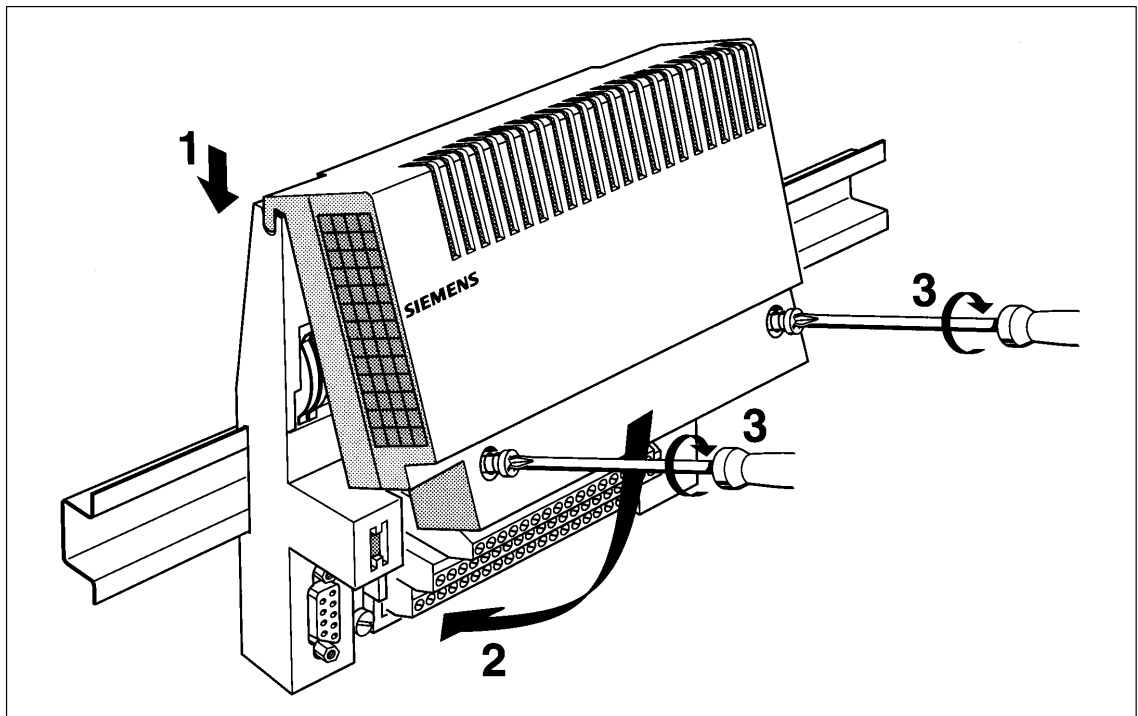

Figure 3-8 Engaging the Electronics Block on the Terminal Block
1. Remove the electronics block in the reverse sequence to that described in Figure 3-8.